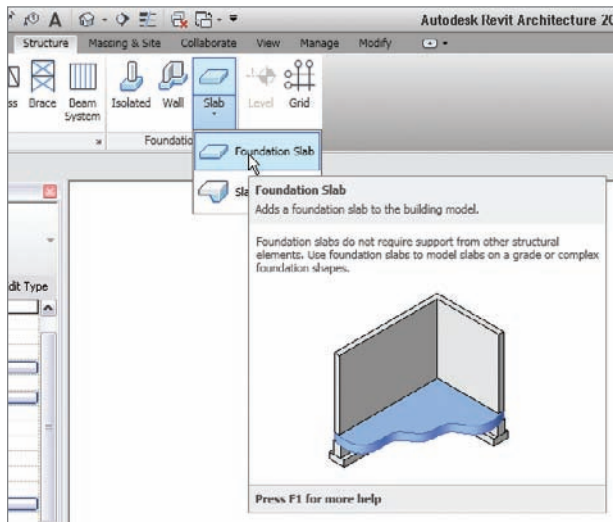

FIGURE 8.59 Clicking Slab > Foundation Slab
3. On the Foundation panel of the Structure tab, click Slab > Foundation Slab, as shown in Figure 8.59.